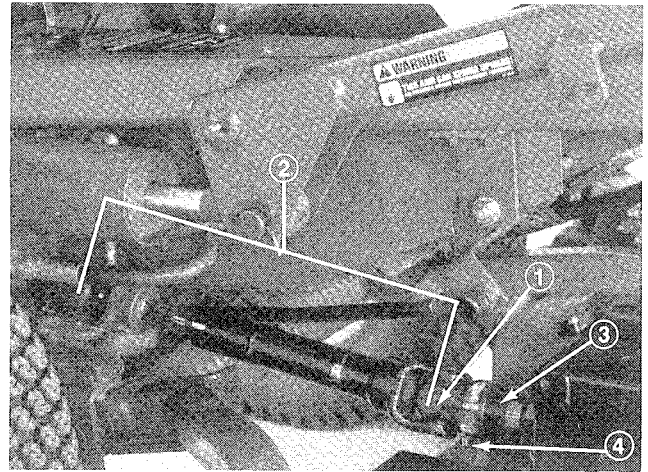

Figure 13
1. Line up holes in yoke and input shaft of gear box. Slide yoke onto shaft (Fig. 13) and secure parts together with roll pin (3/16 x 1-1/2 in.) (38 mm). Tighten (2) capscrews and locknuts securing yoke to input shaft.